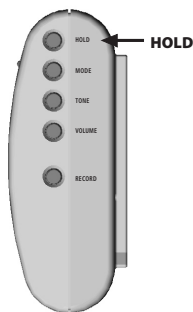
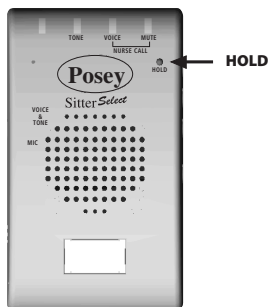

Fig. 11
Fig. 12
1. Press the **HOLD** button on the right side of the unit (see Fig. 11) until the **HOLD** light on the front of the unit is flashing (see Fig. 12).